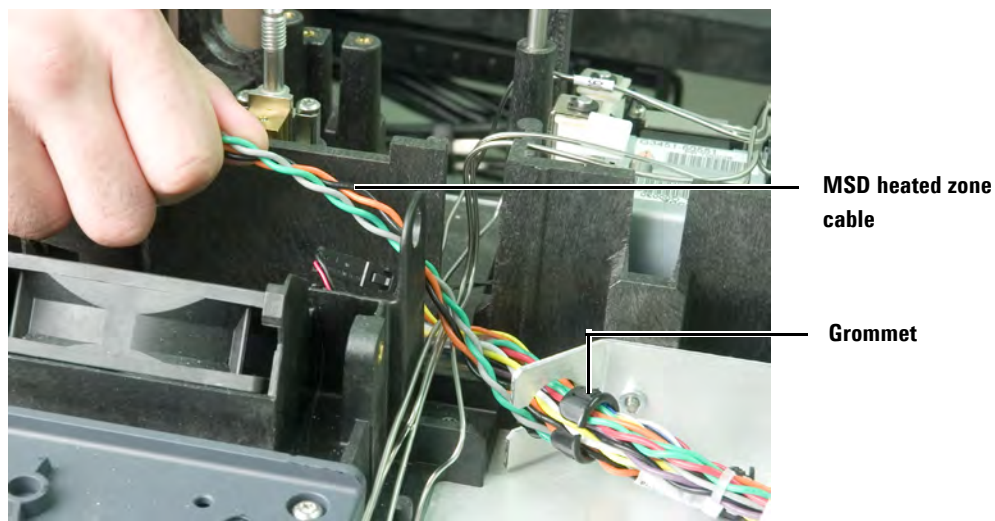

Figure 8 MSD heated zone cable included in main communication grommet
- 8 On the left side of the oven top, unfasten the grommet and include the MSD heated zone long cable. See Figure 8. Refasten the grommet.